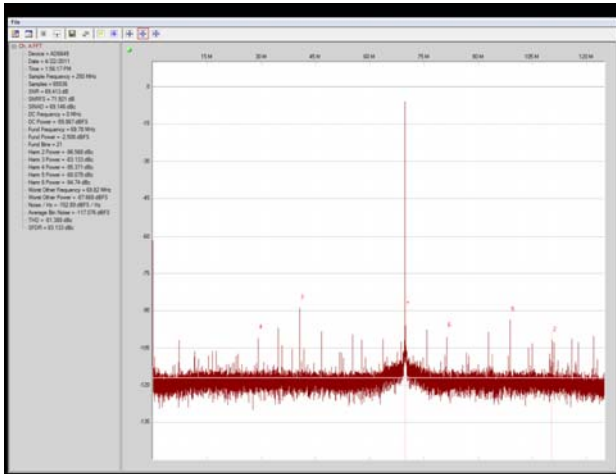
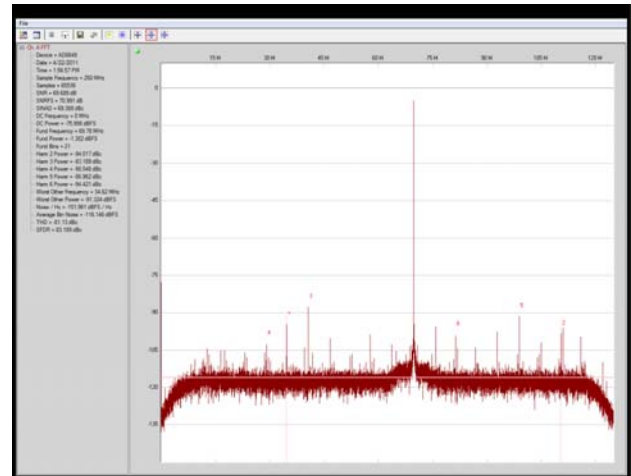

Figure 18. Visual Graph Window of VisualAnalog (**AD6649**)—95 MHz FIR Filter and Fixed-Frequency NCO Mode
Figure 19. Visual Graph Window of VisualAnalog (**AD6649**)—100 MHz FIR Filter and Tunable-Frequency NCO Mode
4. If operating the **AD6649** in the mode using the 95 MHz FIR filter and fixed-frequency NCO, the amplitude displayed is -2.5 dBFS for a -1.0 dBFS input signal (see Figure 18) to the desired settings. If operating the **AD6649** in the mode utilizing the 100 MHz FIR filter and tunable-frequency NCO, the amplitude displayed is -1.3 dBFS for a -1.0 dBFS input signal (see Figure 19).